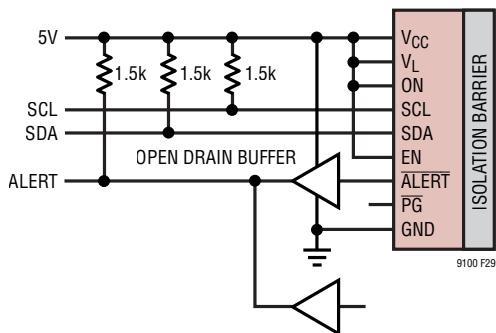

Figure 29. Open Drain Buffer for Shared ALERT Bus
Any of eight distinct I2C bus addresses are selectable using the three-state pins ADR0 and ADR1, as shown in Table 2. Note that the configuration of ADR0 = L and ADR1 = H is used to enable the single-wire broadcasting mode. For the eight I2C bus addresses, address bits b7, b6 and b5 are configured to (001) and the least significant bit b0 is the R/W bit. In addition, the LTM9100 will respond to two special addresses. Address (0011 111) is a mass write used to write to all LTM9100s, regardless of their individual address settings. Address (0001 100) is the SMBus alert response address. If the LTM9100 is pulling low on the ALERT pin, it will acknowledge this address using the SMBus alert response protocol. Note, if multiple LTM9100's are configured to share a single ALERT bus then the addition of an open drain buffer is necessary, see Figure 29.